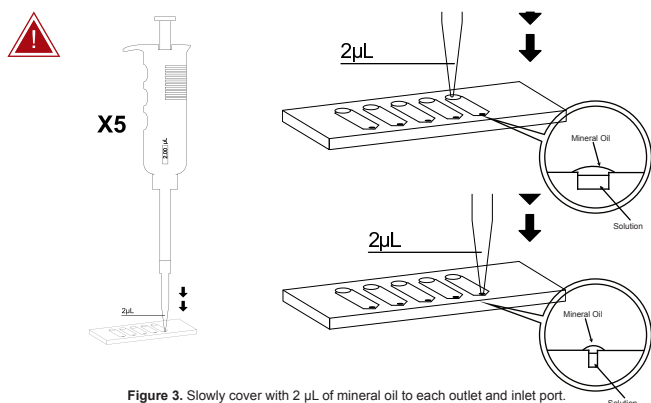

Figure 3. Slowly cover with 2 µL of mineral oil to each outlet and inlet port.
6. Use a 1-10µL micropipette fitted with the recommended tip to add a 2 µL oil overlay to the inlet and outlet ports (Figure 3).